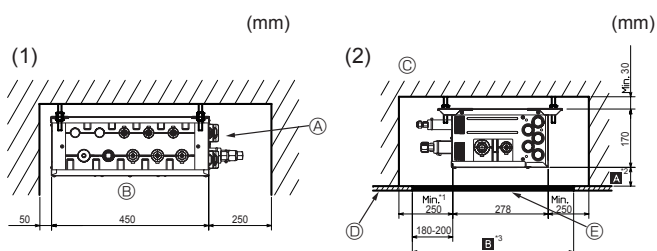
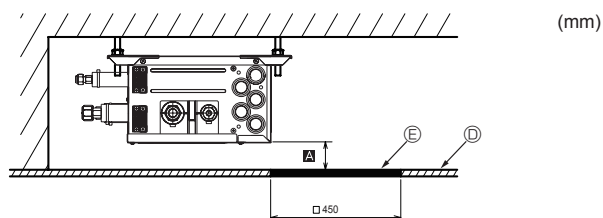
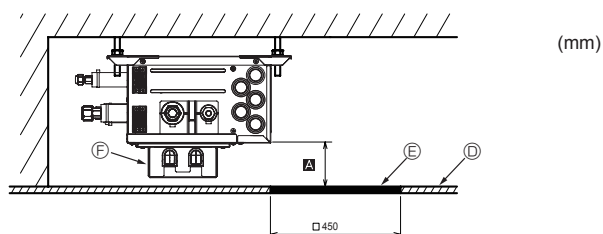

Fig. 4-7
Fig. 4-8
Fig. 4-9
- (2) Side View (Fig. 4-7, Fig. 4-8, Fig. 4-9)
To install the optional Reactor Box, set **A** to Min. 270 mm <recommendation> (Fig. 4-9).
In the case of “□ 450 mm”, prepare a maintenance hole at a PCB side (as it is shown in Fig. 4-8, Fig. 4-9), and “Min. 300 mm” is needed as distance **A**.